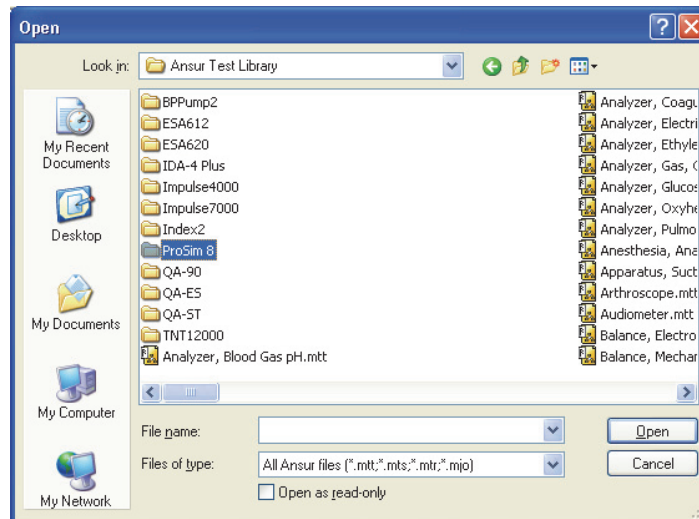

Figure 3-17. Browsing the Ansur Test Library
2. Browse to the folder where Ansur was installed and double-click the Ansur Test Library folder. See Figure 3-17. The usual location is C:\Program Files\Fluke but can have a different name.